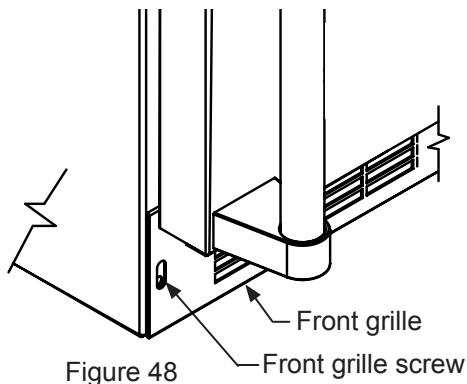
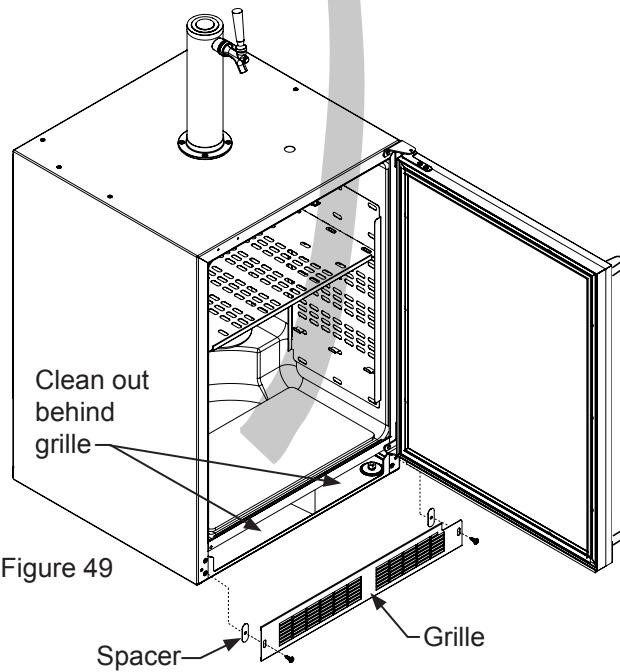

Figure 48
Figure 49
12. Remove the front toe-grille, (see Figure 48 and Figure 49), and use a brush and vacuum to clean dirt and debris from beneath the unit.